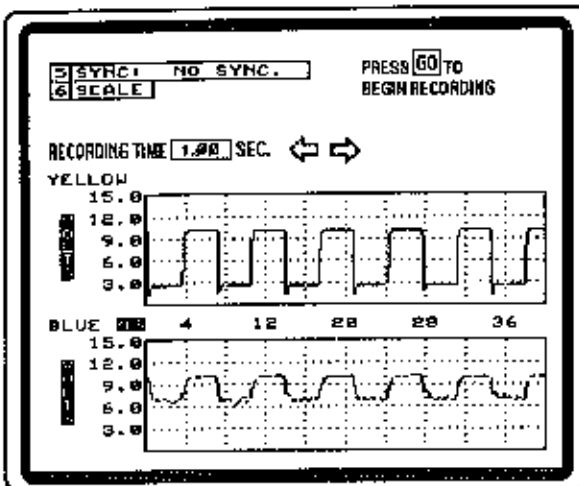

Figure 73
5. Two patterns appear on screen when the yellow and blue clips are connected to circuits in which the voltage is changing (see Figure 73).